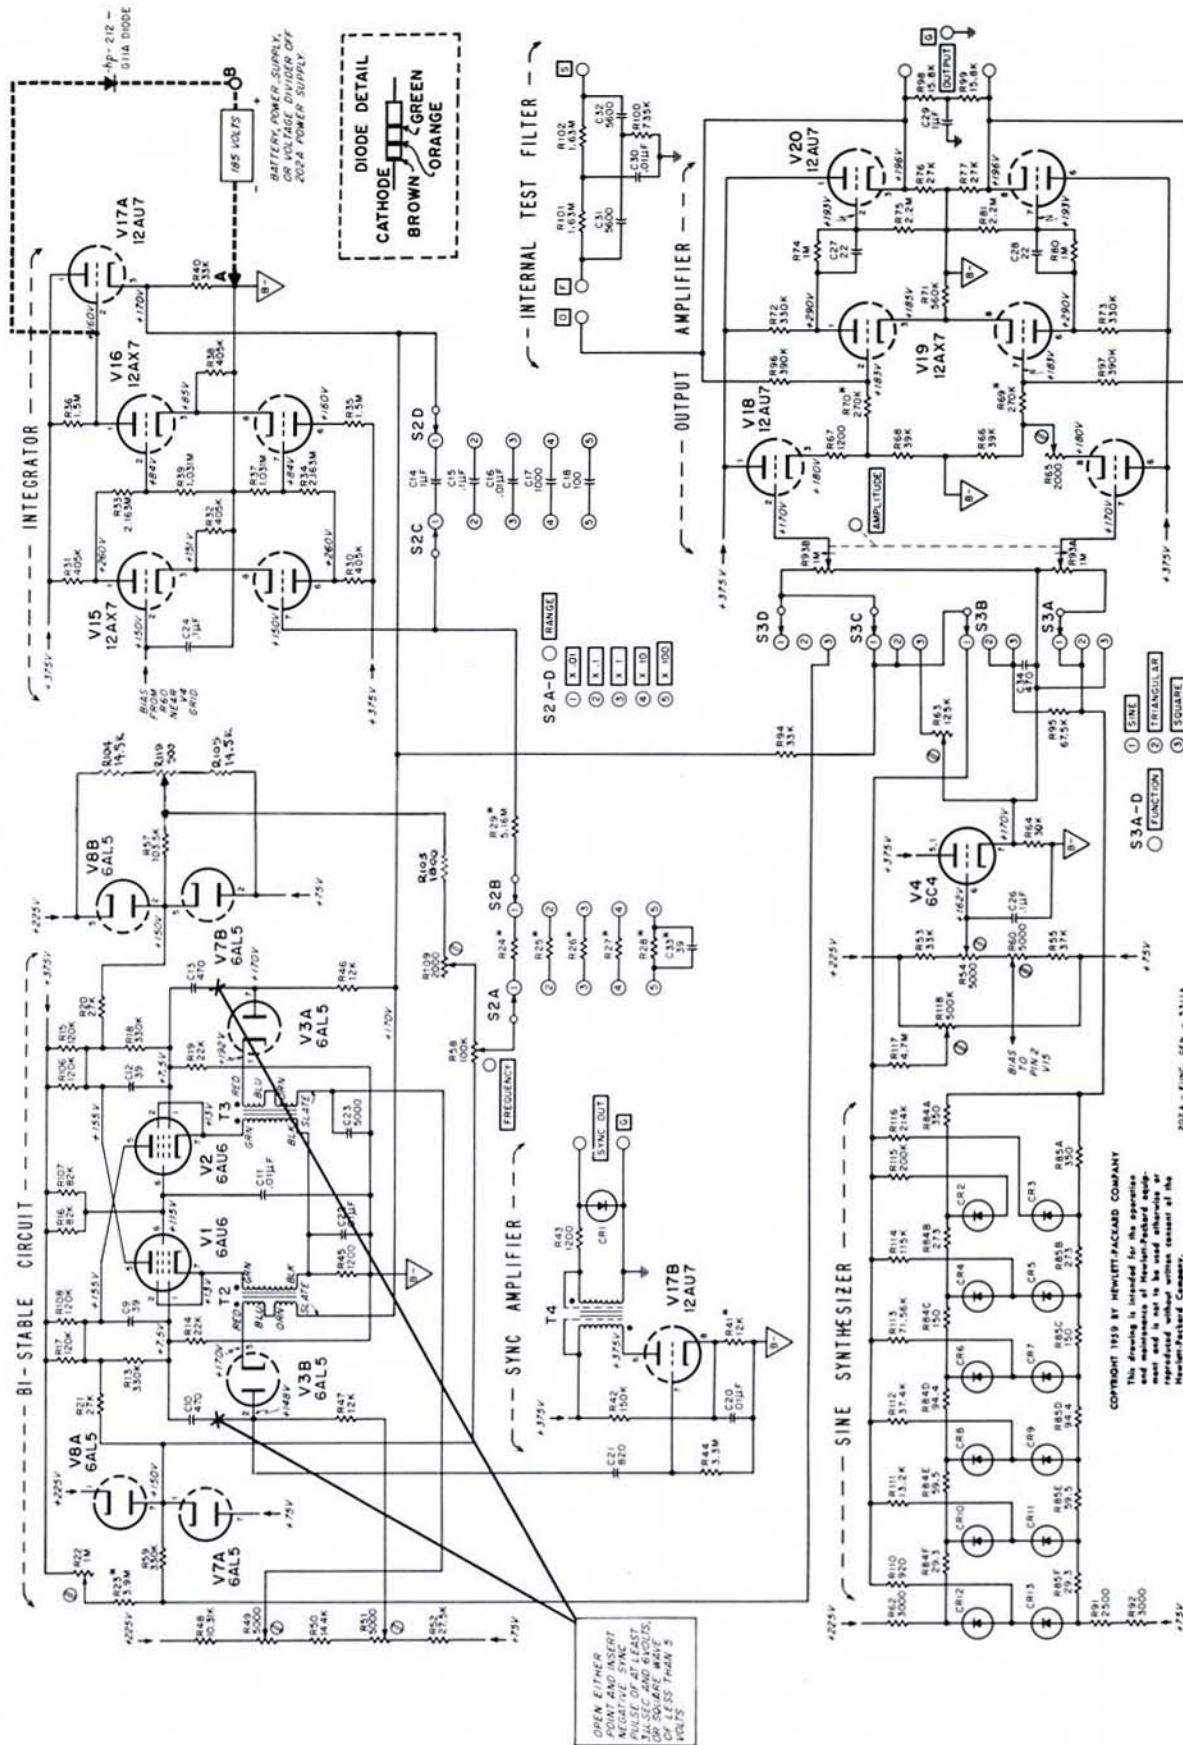
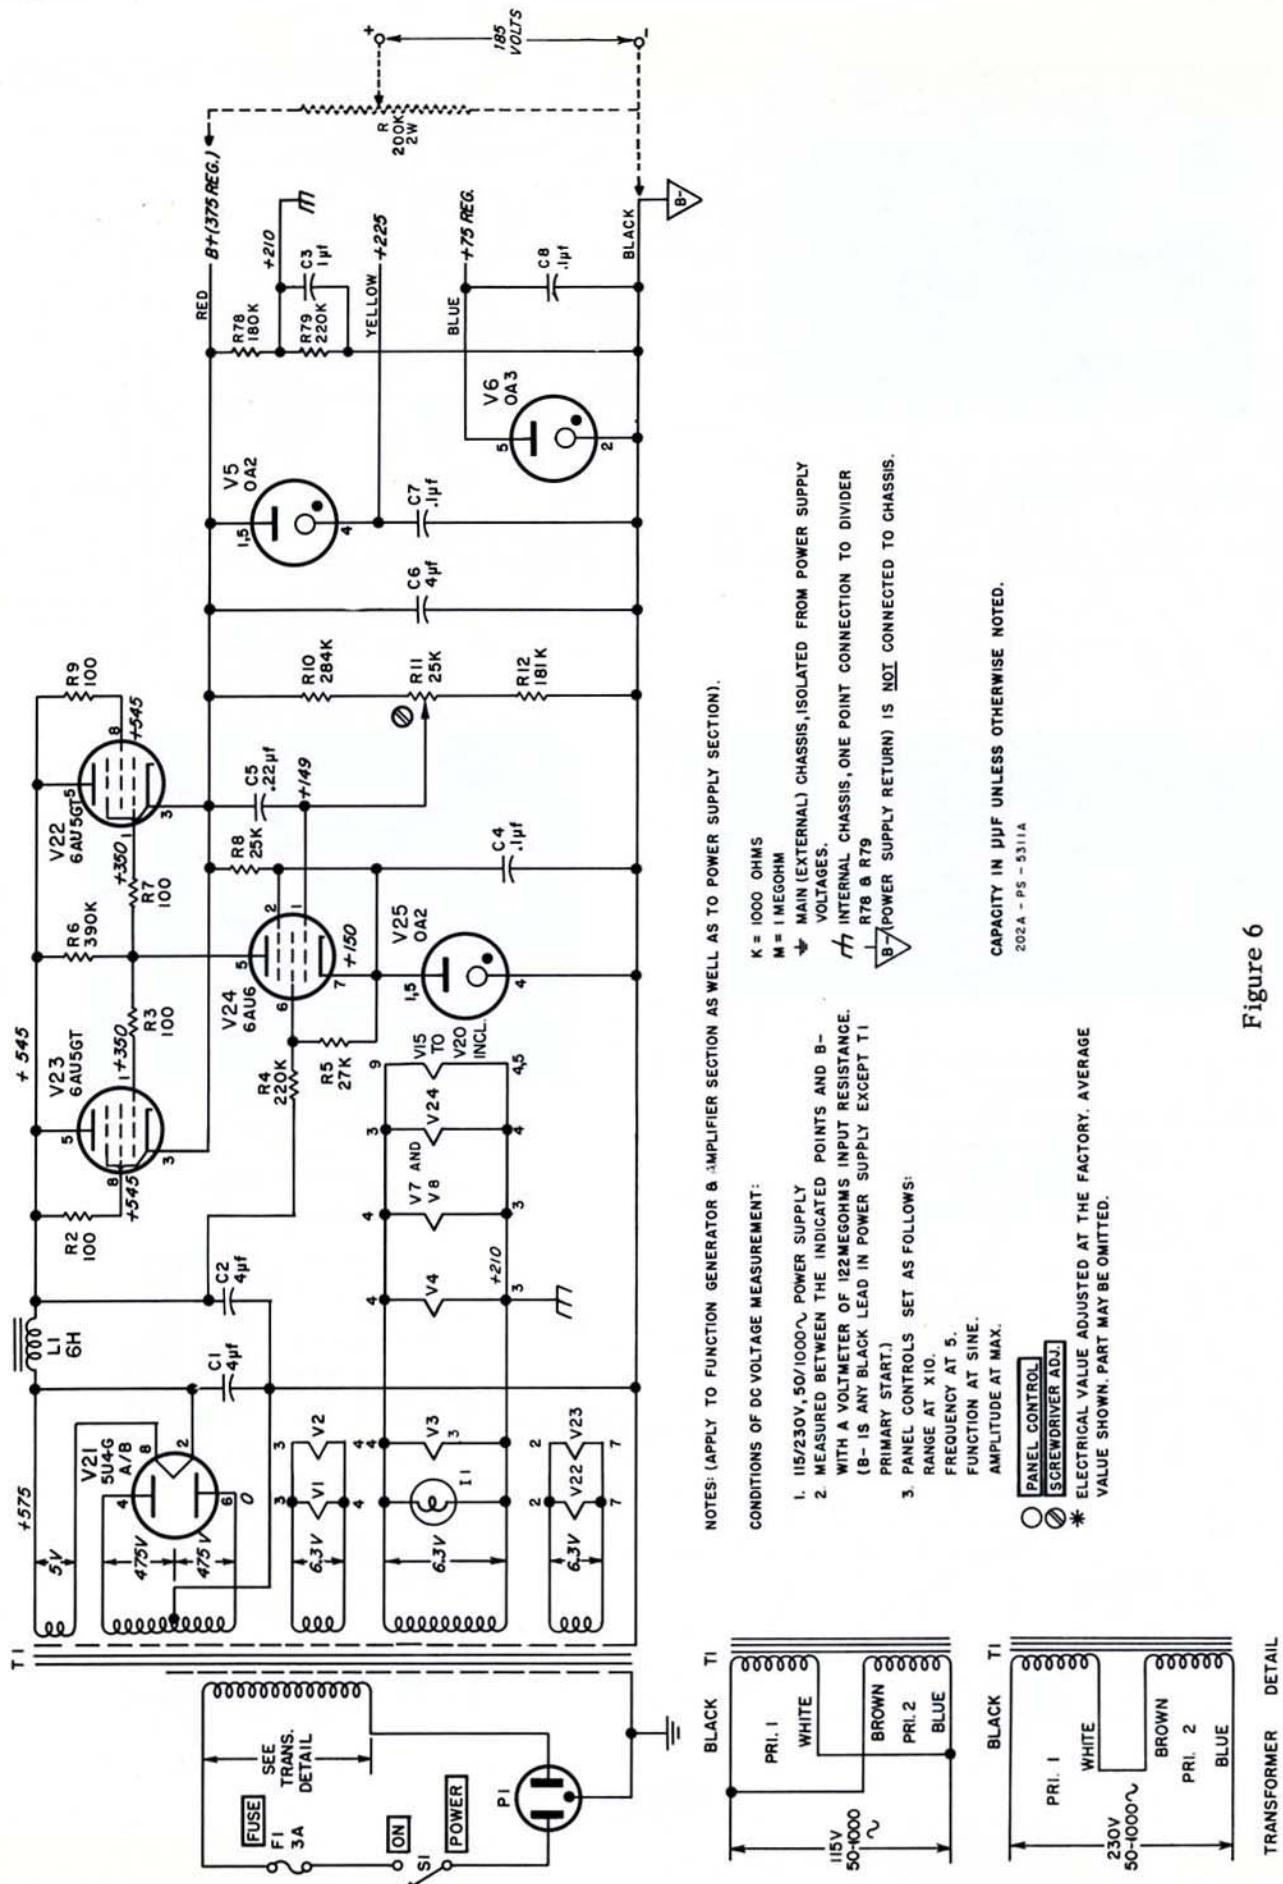

Figure 5
Figure 6
A. An Φ diode, 212-G11A, and a 185 vdc supply are inserted between the grid (pin 2) of V-17A (12AU7) and the B- buss in the 202A as shown by the dotted lines in Figure 5. The purpose of the diode is to keep the integrator from charging too high. The 185 volts may be easily supplied by inserting a 200K ohm potentiometer between B+ and B-, e.g. pin 1 of V-5 (OA2) and pin 2 of V-6 (OA3), as shown by the dotted lines in Figure 6 and adjusting the output for the proper voltage. The 185 volts should be established prior to the insertion of the diode to avoid exceeding the maximum back voltage of the 212-G11A (75 vdc).
If you prefer you may omit the potentiometer and insert a 185 volt power supply or battery between the terminals A-B shown in Figure 5.